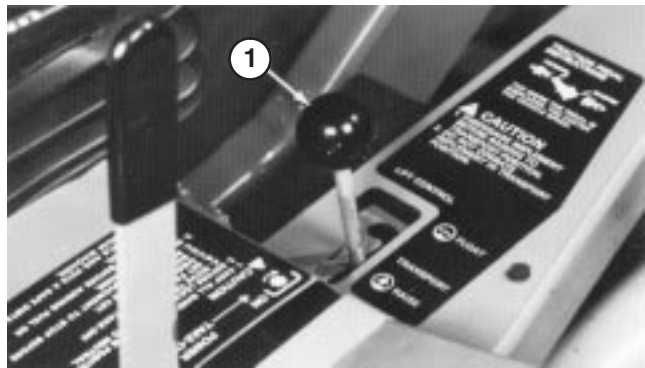
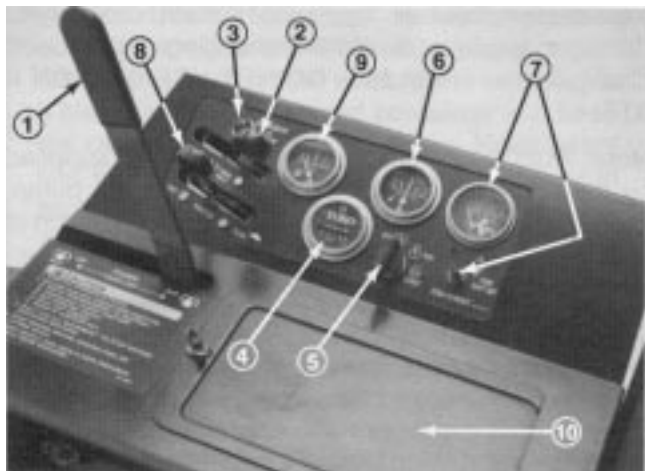

Figure 19
Figure 20
Lift Lever (Fig. 19)—The hydraulic lift lever has three positions: FLOAT, TRANSPORT, and RAISE. To lower implement to the ground, move lift lever forward into notch, which is the FLOAT position. The FLOAT position is used for operation and also when machine is not in operation. To raise implement, pull lift lever backward to the RAISE position. After implement is raised, allow lift lever to move to the TRANSPORT position. Normally, implement should be raised when driving from one work area to another, except when descending steep slopes.
PTO Lever (Fig. 20) — The PTO lever has two positions: ON (engage) and OFF (disengage). Slowly push PTO lever fully forward to ON position to start the implement or cutting unit blades. Slowly, pull lever backward to OFF position to stop implement operation. The only time PTO lever should be in the ON position is when implement or cutting unit is down in operating position.
Hour Meter (Fig. 20) — The hour meter registers accumulated hours of engine operation. Use the hour meter to determine intervals for service maintenance and lubrication.
Fuel Gauge (Fig. 20) — Indicates quantity of fuel remaining in fuel tank.
Oil Pressure Warning Light (Fig. 20) — The oil pressure warning light glows and a buzzer sounds when oil pressure in engine drops below a safe level. If low oil pressure ever occurs, stop engine and determine the cause. Repair the damage before starting the engine again.
Ammeter (Fig. 20) – Ammeter shows charge rate of the battery by the alternator. When engine is running, there usually is a slight charge, unless engine is idling slowly. Needle points to 0 when battery is fully charged. By contrast, alternator is not charging the battery when needle points to (-) negative side of ammeter. If this happens, repair the charging system to prevent discharge of the battery.
Temperature Switch/Gauge and Reset Button (Fig. 20) – The temperature switch/gauge registers the temperature of the coolant in the cooling system. If temperature of coolant gets too high the engine will shut off automatically. When this happens, rotate ignition key to OFF. Automatic shut-off of the engine usually results from debris on front of screen or radiator, which reduces air flow. After cleaning outside of screen and radiator or repairing some other damage, press the reset button and start the engine.
Ignition Switch (Fig. 20) – The key switch, which is used to start and stop the engine, has three position: OFF, RUN, and START. Rotate key clockwise to the START position to engage starter motor. When engine starts, release key and it will move automatically to the ON position. To shut engine off, rotate key counterclockwise to the OFF position.
Choke (Fig. 20) – To start a cold engine, close carburetor choke by moving choke control fully forward. After engine starts, regulate choke to keep engine running smoothly. As soon as possible, open the choke by pulling it backward.
Throttle Control (Fig. 20) – Throttle is used to operate engine at various speeds. Moving throttle forward increases engine speed—FAST; backward decreases engine speed—SLOW. The throttle regulates the speed of the cutter blades or other implement components and, in conjunction with traction pedal, controls ground speed of the traction unit.
1. Ensure parking brake is set, PTO lever is in OFF position (Fig. 20), and lift lever is in TRANSPORT or FLOAT position (Fig. 19). Remove foot from traction pedal and insure it is in neutral.
2. Move throttle control (Fig. 20) to 1/4–1/3 open position.
3. To start engine, move choke lever (Fig. 20) fully forward.
4. Insert key into ignition switch (Fig. 20) and rotate it clockwise to START position. Hold key in START position for a few seconds to energize ignition system. Release key immediately when engine starts and regulate choke to keep engine running smoothly.